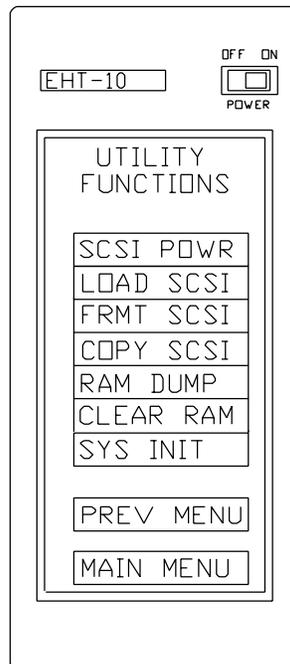

Figure 15 Utilities Functions Menu (Part B)
- * Press **Next Menu** on the Utilities Functions menu. FST displays part B of the Utilities Functions screen, as shown in figure 15.
- * Press **Next Menu** on the Utilities Functions menu. FST displays part B of the Utilities Functions screen, as shown in figure 15, above.